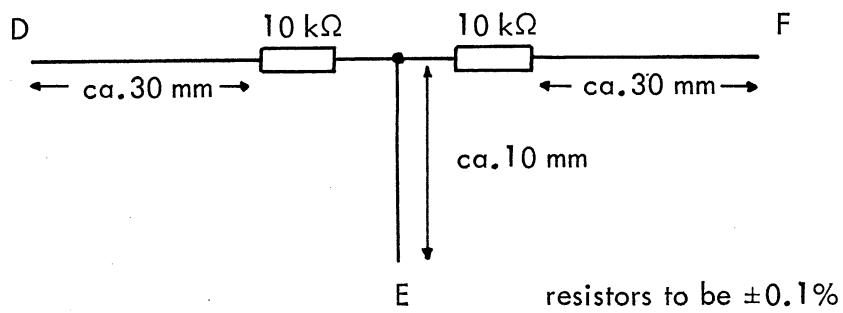

Fig. G2.
- 78) Now connect the attenuator shown in Fig.G2 to the AF OUTPUT connector, connecting point D to the centre conductor and point F to the outer screen.